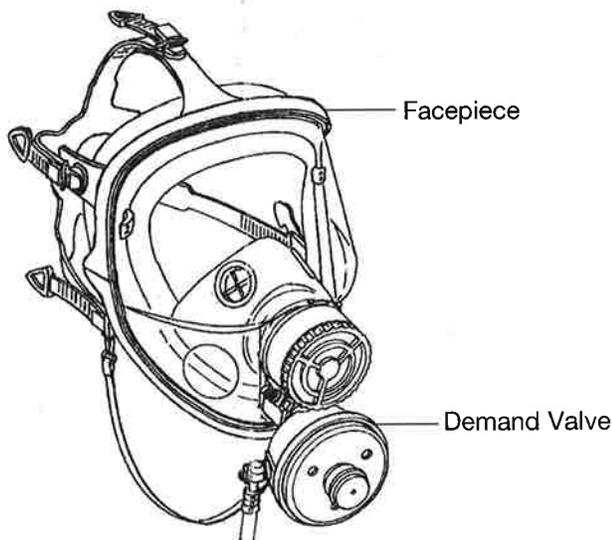

Figure 1
- 1) Remove the demand valve from your North facepiece, if attached. Set the demand valve aside (See Figure 1).